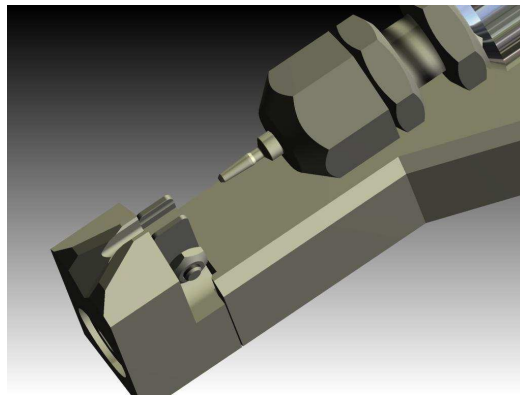

Figure 5
1. The Pistol Grip hand tool must be set to its basic position. The pin with the part number 964318 is inserted to the stop into the support nut (see figure 5). After that the socket is inserted.